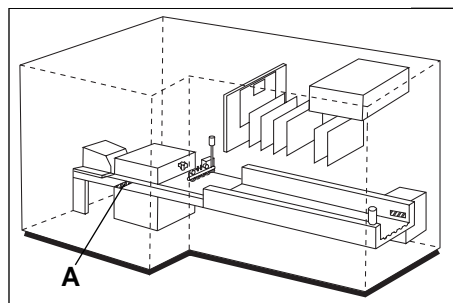

Figure 9.22
4. Use a swab or lint free soft cloth and isopropyl alcohol and reach hand in through the exit port to clean the window (A) (Figure 9.22).